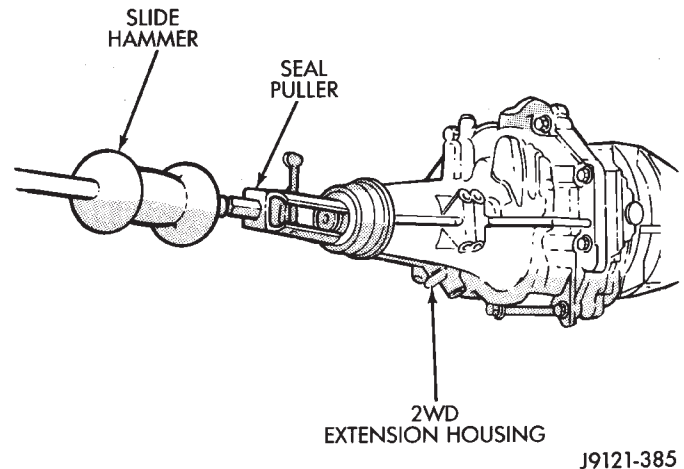

Fig. 1 Removing 2-Wheel Drive Extension Housing Seal
(1) Drain transmission lubricant.
(2) Remove release bearing and lever.
(3) Remove clutch housing bolts and remove housing.
(4) On 2-wheel drive models, remove vehicle speed sensor, speedometer adapter and speedometer driven gear. Then remove extension housing seal (Fig. 1).